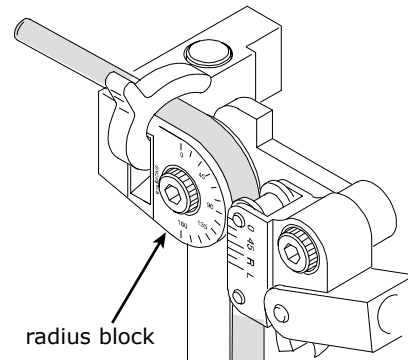
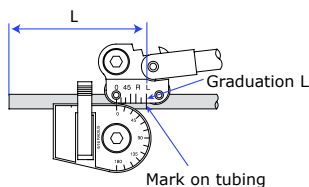

Fig. 2
Fig. 4
This handle is attached to the radius block by means of a link. It has a companion groove the same diameter as the tube to be bent. There are marks and numbers stamped on the block end of this handle (see Fig. 2). These are the reference marks used in the bending process.
**Note:** On Fig. 2 the marks "L" and "R" are used depending on whether the mark on the tube is measured from the left "L" or from the right "R". See Fig. 4 and Fig. 5.